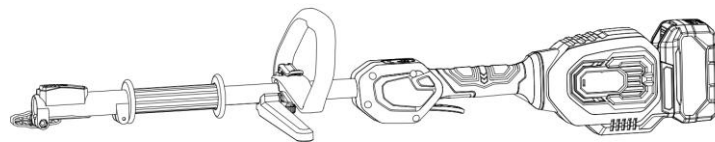

Fig.2B
2. Position the front-assist handle onto the upper shaft of the trimmer. Ensure that the limiting block locks into the designated slot. (Fig.2B)
3. Move the front assist handle up or down to the desired position, then fully tighten the nut to fasten it in place (Fig.2B)